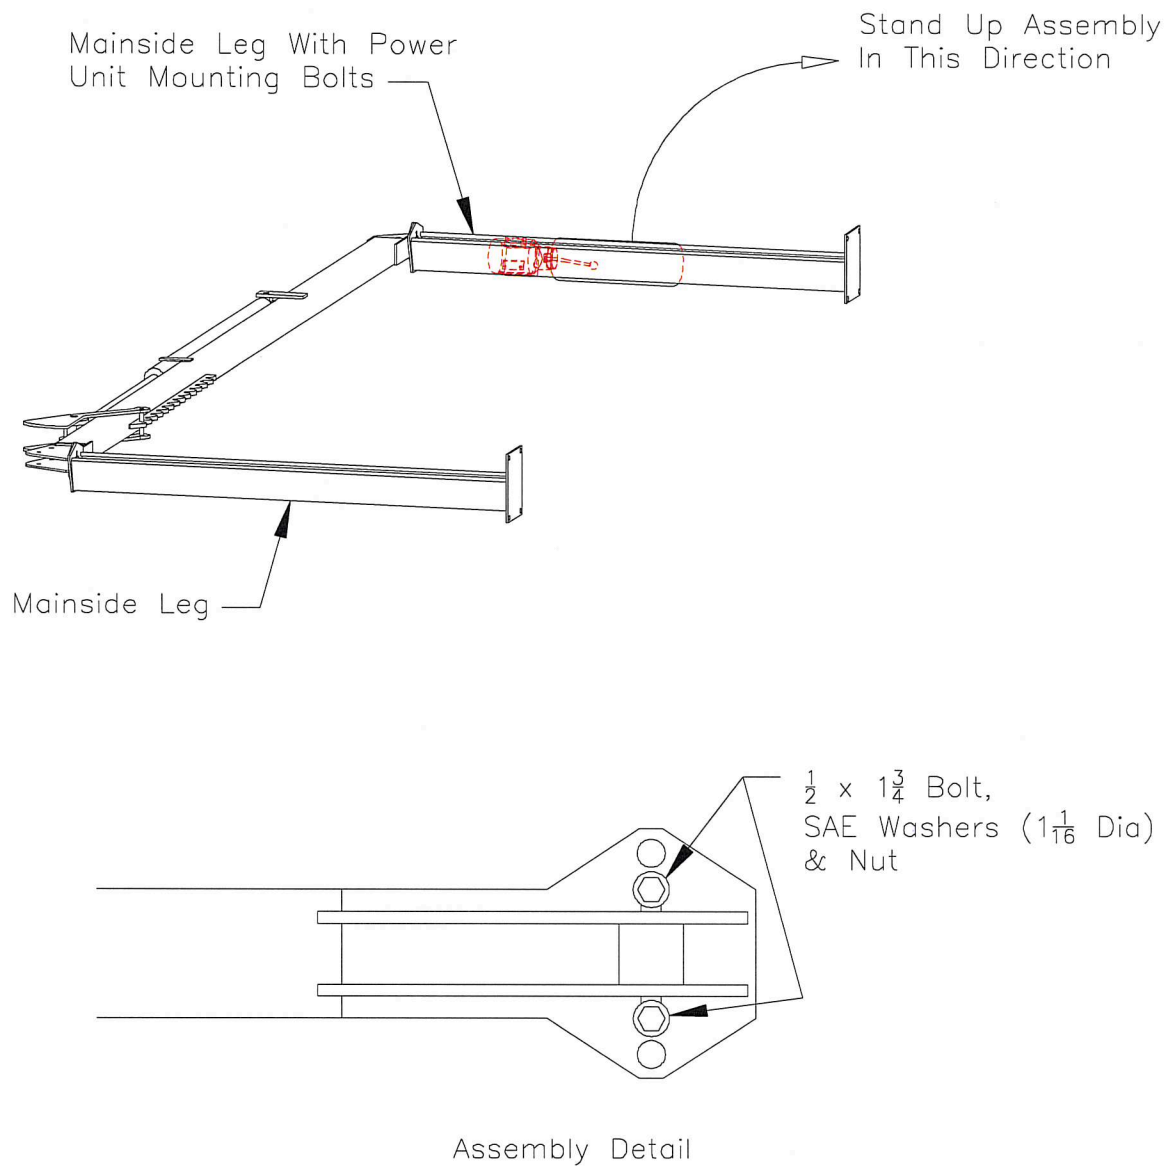

Figure 5. 12000 lb. Lift, Top Rail / Mainside Leg Assembly
| Figure 5, Top Rail & Mainside Leg Assembly.....  | Page 9  |
6. Position the top rail and the two mainside legs as shown in Figure 5. The mainside leg that has the drilled hole pattern on side is the power unit leg. Bolt the top rail to the mainside legs using  $\frac{1}{2}$  x 1-3/4 bolts, washers and nuts provided. Use two bolts per leg.